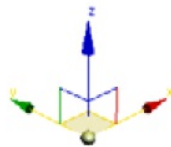

Figure 2-6 The move gizmo
*By default, the color of the X-axis, the Y-axis, and the Z-axis of the transform gizmos is red, green, and blue, respectively. When you move the cursor over any one of these axes, it gets activated and turns yellow. You can see the colors of these axes displayed at the bottom left corner of each viewport. Also, the colored axes are displayed while selecting an object using the **Select and Move**, **Select and Rotate**, or **Select and Scale** tool. Figures 2-6, 2-7, and 2-8 show the move gizmo, rotate gizmo, and scale gizmo, respectively.*